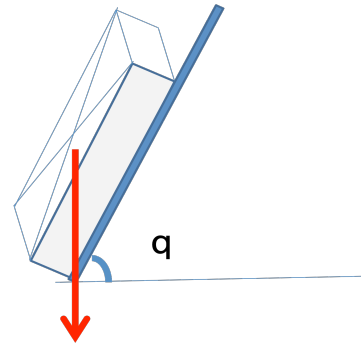

Figure 3
1. Arrange the block and the cardboard as in figure 3.